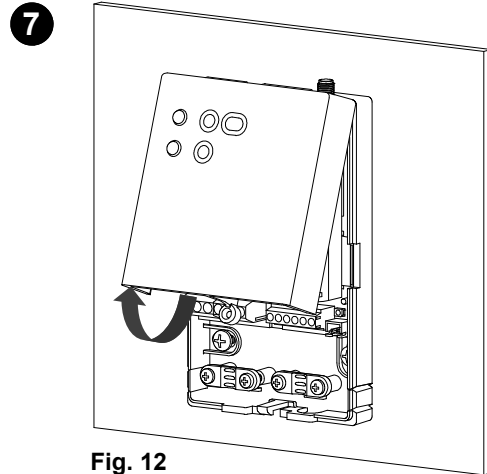

Fig. 12
- ⑦ Rotate the cover and slightly press it until you take it off completely (Fig. 12).